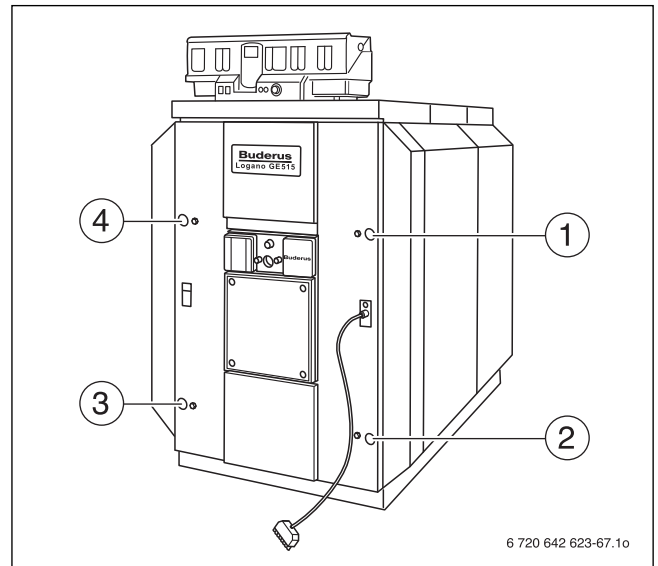

Fig. 71 Fastening the burner door
- ▶ Undo the four machine screws that fasten the burner door to the front section (→ Fig. 71, [1 to 4]).